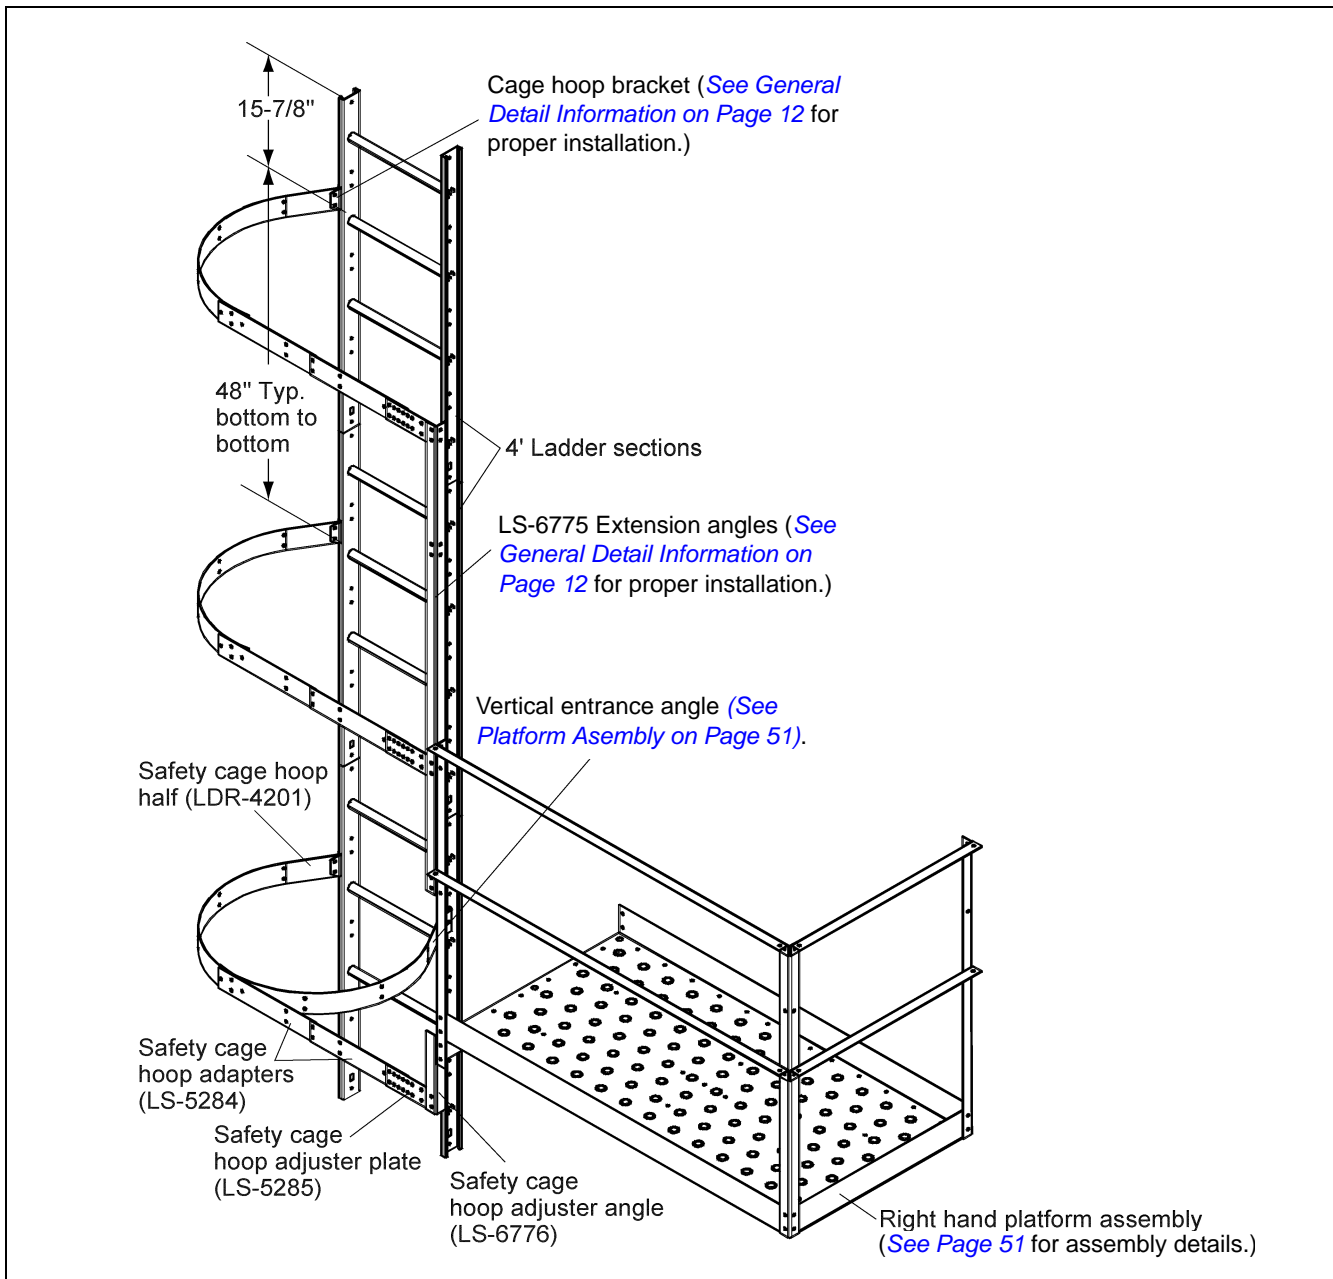

Figure 6V
Before attaching any pieces to the ladders or platform, some pre-assembly is required. Attach the safety cage brackets to the ladder section. (See General Detail Information on Page 12.) Bolt the safety cage hoop adjuster plates onto the extension angle as shown in Figure 6V. Bolt the safety cage hoop adapters and safety cage hoop halves together using the proper holes based on the diameter of the grain bin. (See Page 53.) Be sure to use the 5/16" x 3/4" bolt with the head of the bolt to the inside of the safety cage. Bolt these assemblies to the safety cage brackets and hoop adjuster plates, tighten bolts as you go. The bottom assembly requires two (2) hoop halves and will be positioned just below the platform as shown in Figure 6V. Use the safety cage hoop adjuster angle to secure the two (2) hoop half assemblies to the vertical entrance angle on the platform assembly.